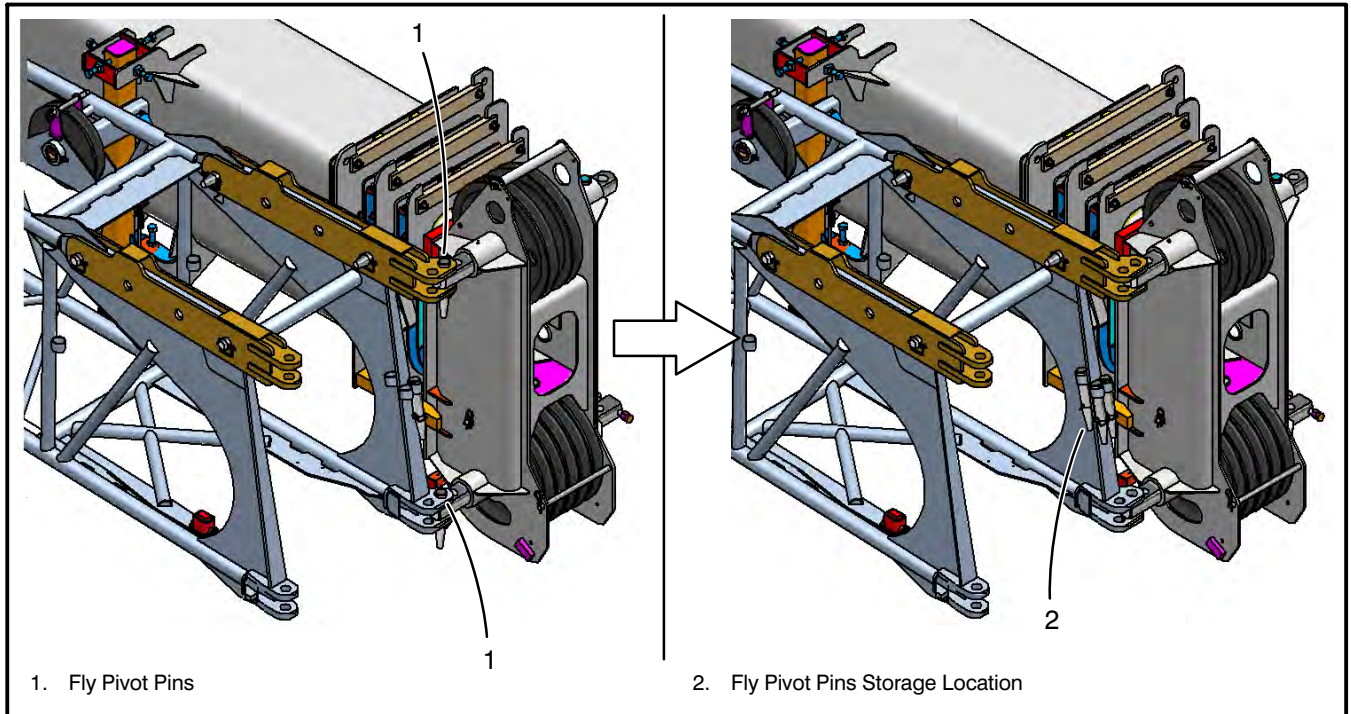

Figure 4-87
21. Remove two fly connecting pivot pins from the right side of the boom. Refer to Figure 4-87. Store pins and keepers in their storage location on the rear right side of the fly section.